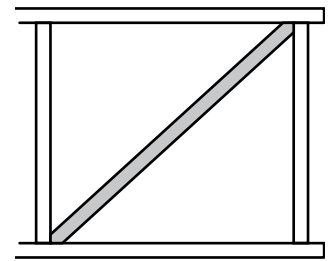

Figure 24
4. Glue the piece in place (Figure 24).